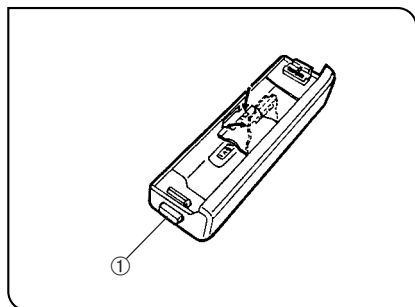

Fig. 31
Loading Batteries (Figs. 31 & 32)
1. Press the battery unit release button ① and remove the battery unit.
2. Open the battery holder plate as shown in Fig. 31. (When replacing batteries, removal is easier if you use a pointer object such as the tip of a mechanical pencil as a lever.)